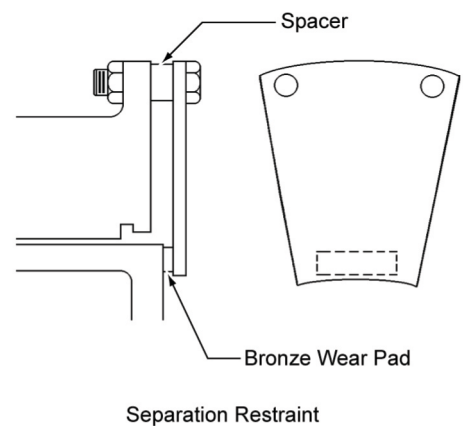

Figure 3A
- 1.2.2.1 Figure 3A illustrates another type of axial locking device called a separation restraint. This device is attached to the clutch rim as shown, with a bronze wear pad which rides against the clutch drum to restrict axial movement.